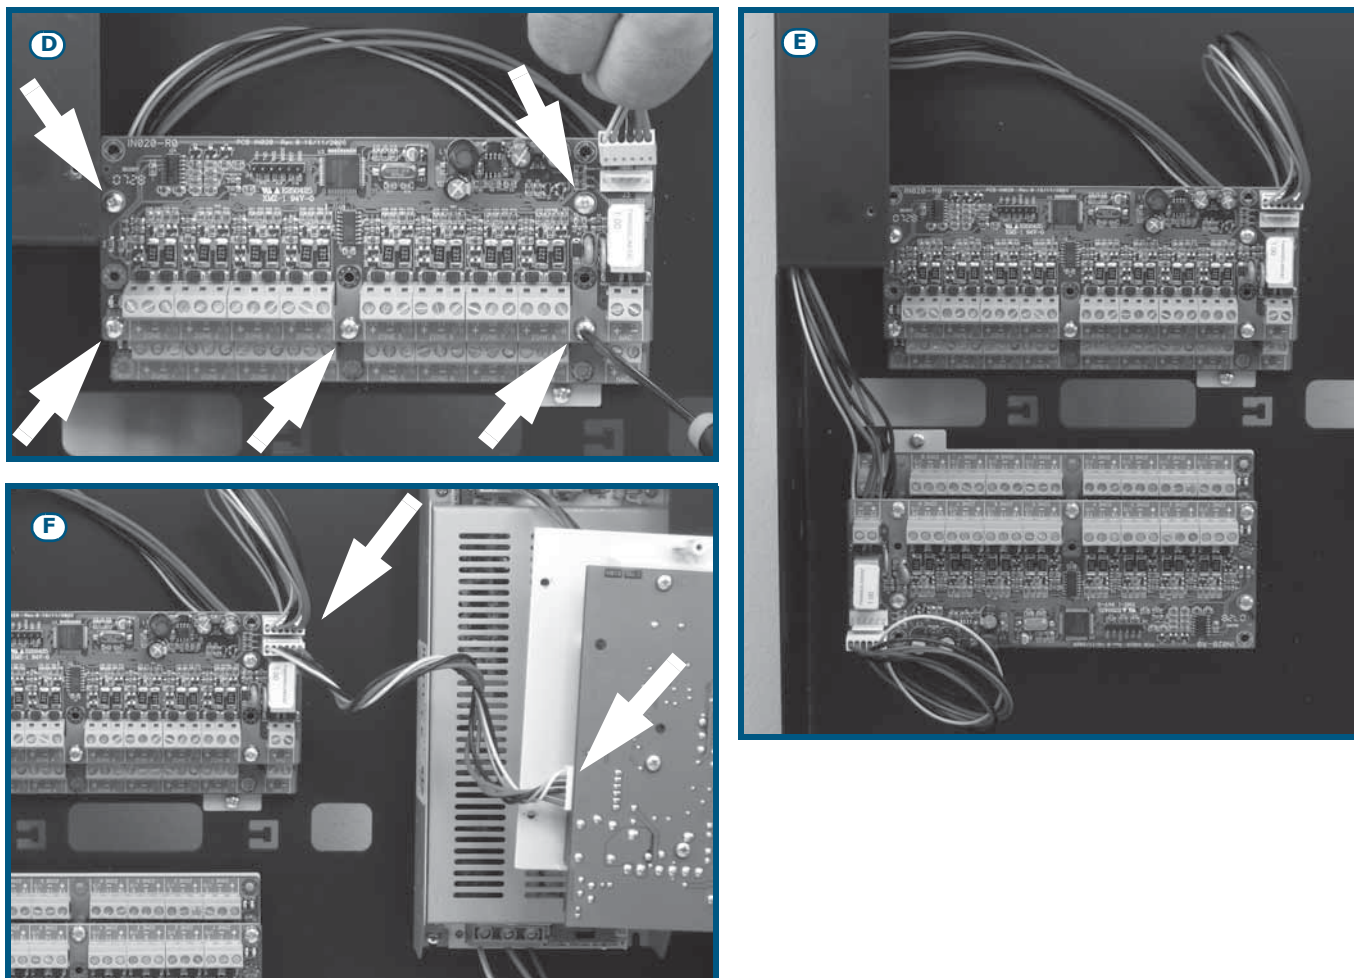

Figure 12 - Mounting the expansion board - 2
6. Locate the second expansion board on the metal spacers (Figure 12 - [D]).
10. Connect the third board to the second (Figure 12 - [E]).
11. Using the respective connector, connect the first board to the control panel motherboard (Figure 12 - [F]).